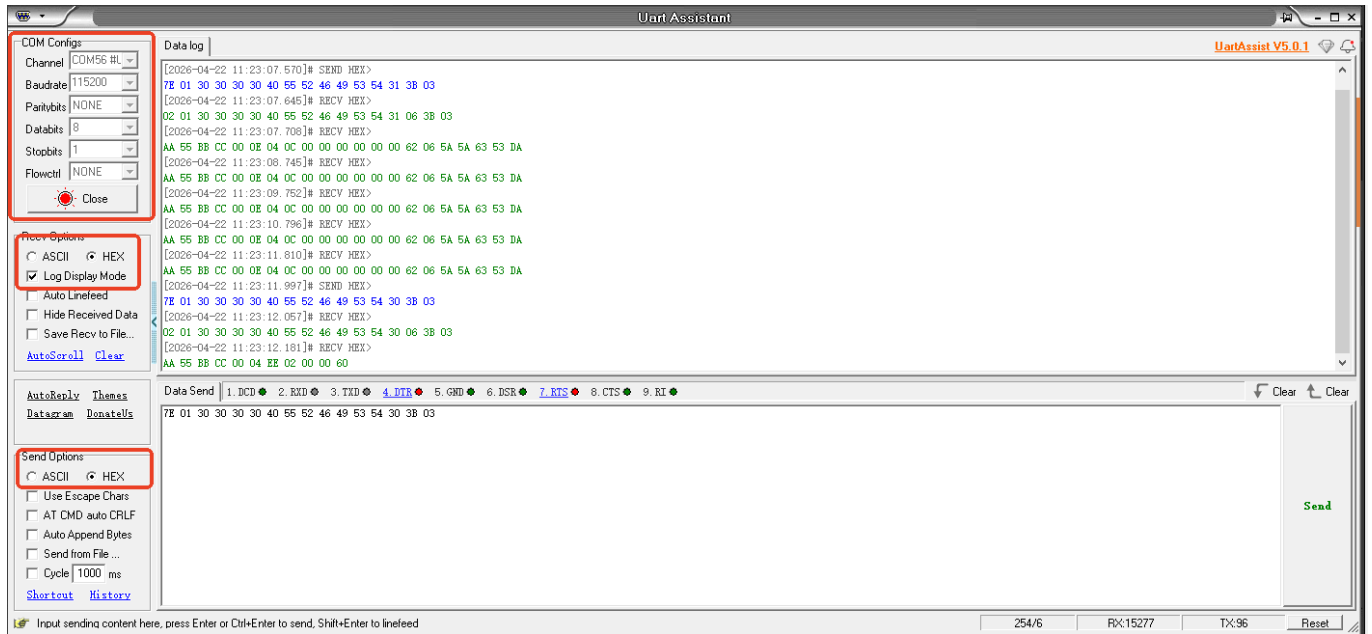

Figure 3-6
- (3) The host uses a serial port debugging assistant, as shown in Figure 3-6. Set the parameters of the serial port, open it, and then communication can proceed.